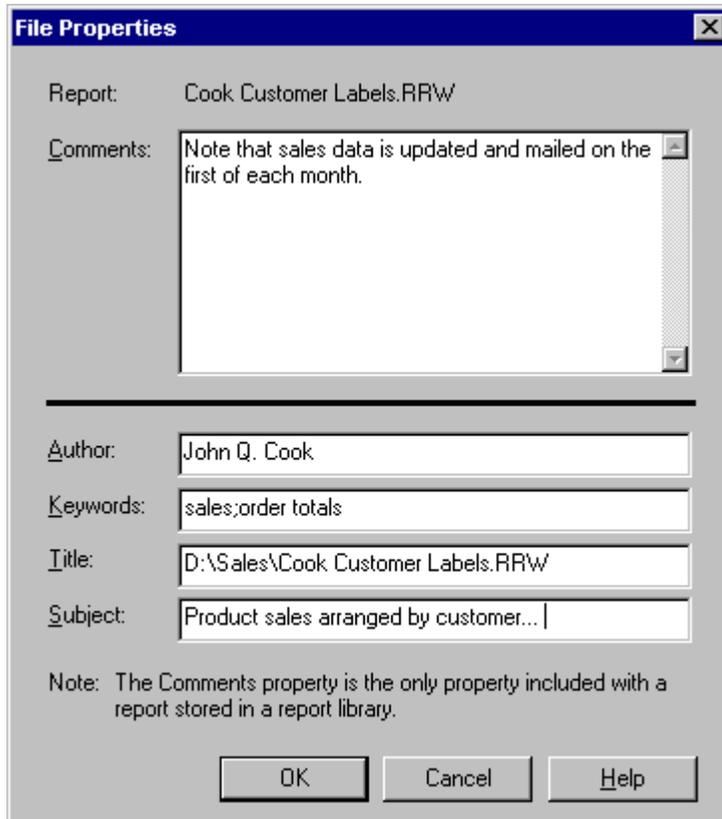

Figure 2.3 File Properties Dialog
1. Open the report or template and select File ⇒ Properties. The report name is shown at the top of the File Properties dialog (see Figure 2.3), originator of the current report is shown in the Author box, and the Title entry defaults to the full path and name of the report.